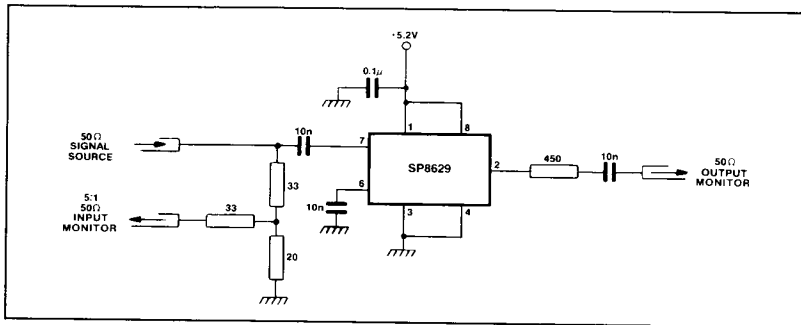

Fig.5 Test circuit
2. The dynamic test circuit is shown in Fig.5